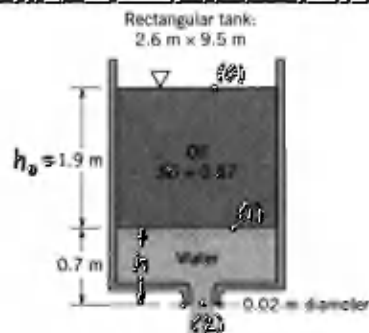

FIGURE P3.12R
3.12R (Bernoulli/continuity) Water collects in the bottom of a rectangular oil tank as shown in Fig. P3.12R. How long will it take for the water to drain from the tank through a 0.02-m-diameter drain hole in the bottom of the tank? Assume quasi-steady flow.